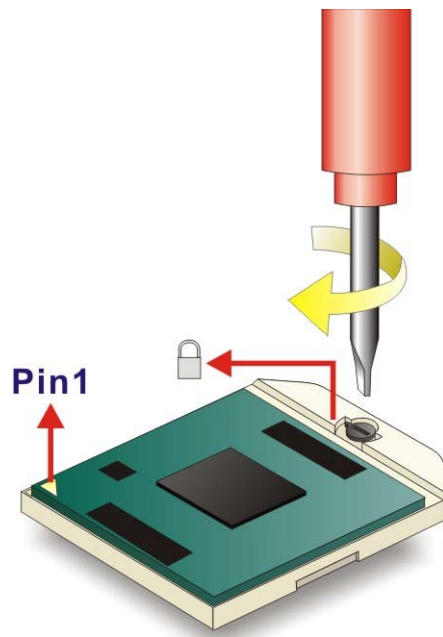

Figure 4-2: Lock the CPU Socket Retention Screw
- Step 7:** **Lock the retention screw.** Rotate the retention screw into the locked position. See **Figure 4-2**.